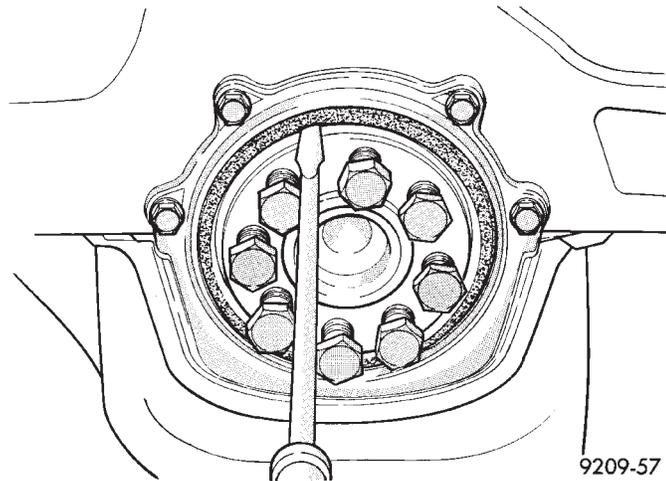

Fig. 2 Removing Rear Crankshaft Oil Seal
(1) Pry out rear seal with screwdriver. Be careful not to nick or damage crankshaft flange seal surface or retainer bore (Fig. 2).